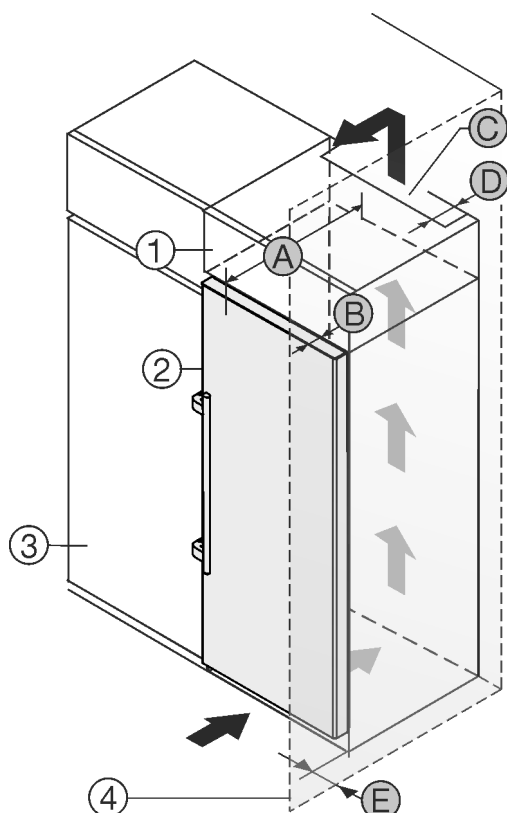

Fig. 2
- (1) Top cabinet *
- (2) Appliance *
- (3) Kitchen cabinet *
- (4) Wall *
- (A) Appliance depth *
- (B) Door depth *
- (C) Ventilation cross section *
- (D) Distance to the back of the appliance *
- (E) Distance to the side of the appliance *
You can place the appliance directly beside the kitchen cabinet *Fig. 2 (3)*.*
There must be a ventilation shaft at the depth *Fig. 2 (D)* of the back of the top cupboard over the entire width of the top cupboard.*
The ventilation cross-section *Fig. 2 (C)* must be maintained under the ceiling.*
If the appliance is set up with the hinges next to a wall *Fig. 2 (4)*, the distance between the appliance and the wall must be at least 57 mm . This is how far the handle protrudes when the door is open.*
In order to be able to fully open the door, the appliance must protrude by the depth of the door *Fig. 2 (B)* from the front of the kitchen cabinet. The appliance may protrude further depending on the depth of the kitchen cabinets *Fig. 2 (3)* and whether wall spacers are used.*